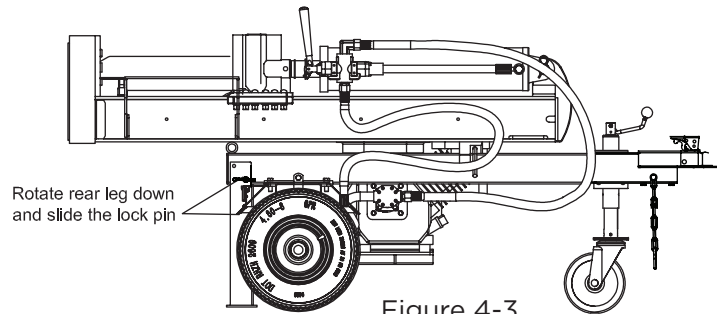

Figure 4-3
1. Rotate the vertical beam down. See Figure 4-3. Pivot beam to the horizontal position. The beam will lock automatically in horizontal position.